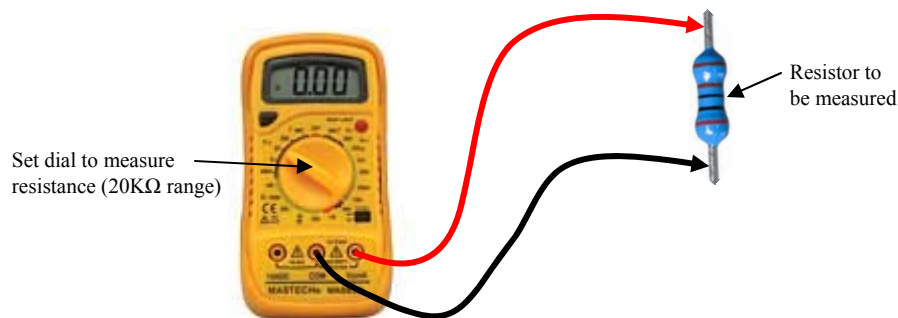

Fig. 2. Multimeter connected across a component, for measuring resistance.
- 3) Plug in your leads, connect the probes across the component as shown in fig. 2 across the device you are measuring, and take a reading.
- 5) Confirm this value by measuring the resistance directly using the 20k Ω setting on your multimeter as in fig. 2.